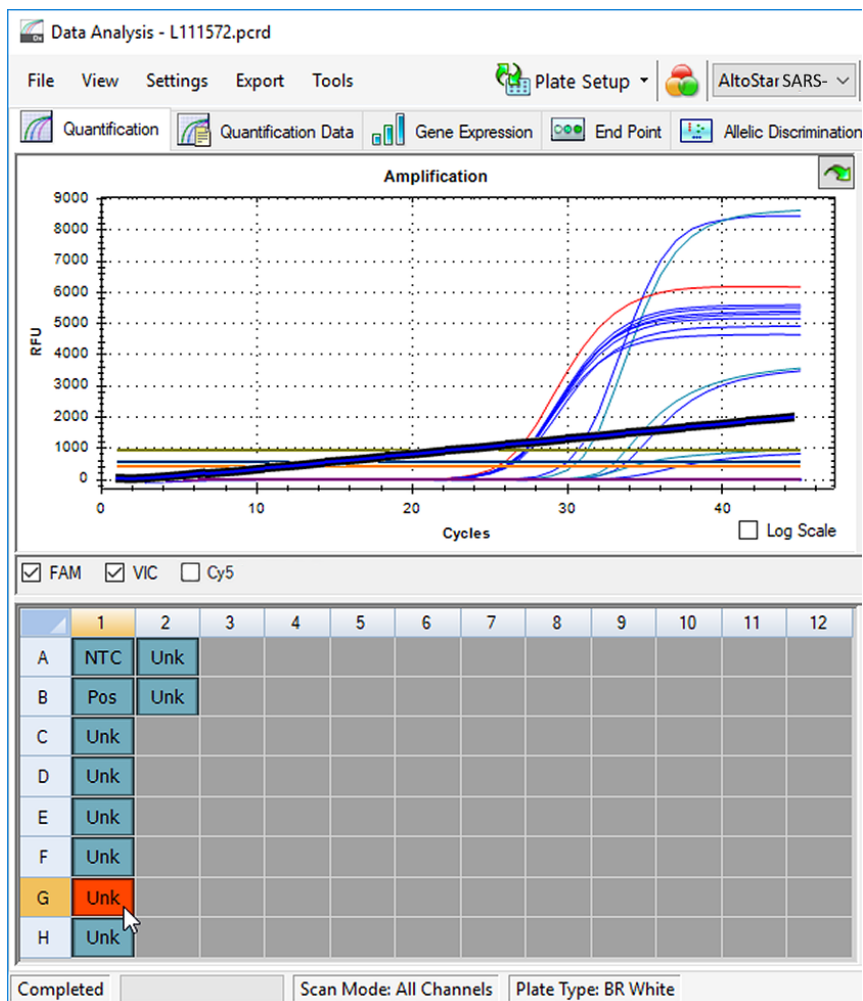

Figure 6: Data Analysis window: irregular PCR signal
- Identify wells with irregular PCR signals (linear signal increase, signal spikes, etc.) in any of the FAM™ (E gene), VIC™ (IC) or Cy5 (S gene) detection channels (see figure 6).